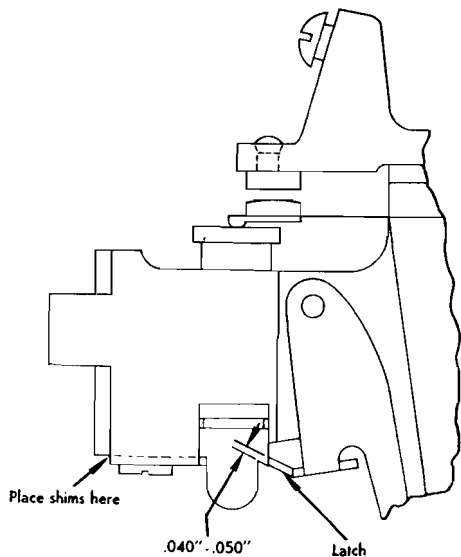

Figure 42. Circuit Breaker Adjustment
2. Place shims beneath the plunger stop plate as required to obtain .040" to .050" travel of the plunger before latching up occurs. If the contact plunger is overlapped by the latch by an amount equal to the thickness of the latch metal, this should provide the .040" to .050" travel (Figure 42).